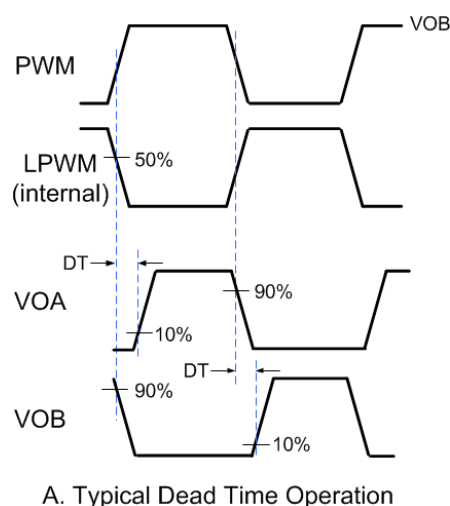
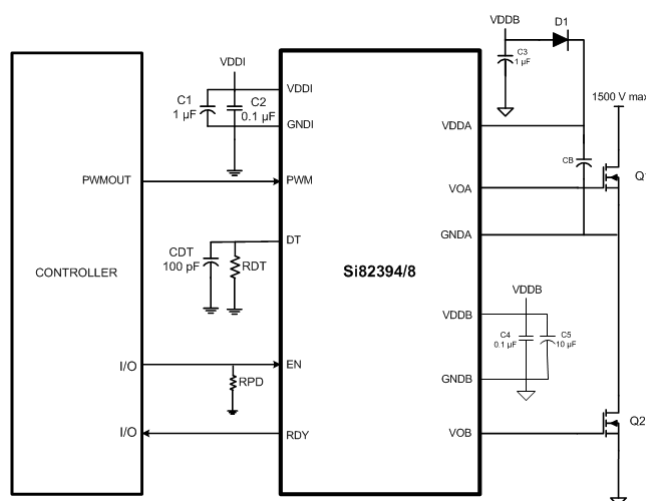

Figure 2.18. Dead Time Waveforms for High-Side/Low-Side Drivers
Figure 3.1. Si82394/8 Application Diagram
All high-side/low-side drivers (Si82394/8) include programmable dead time, which adds a user-programmable delay between transitions of VOA and VOB. When enabled, dead time is present on all transitions. The amount of dead time delay (DT) is programmed by a single resistor (RDT) connected from the DT input to ground per the equation below. Note that the dead time pin should be connected to GND1 through a resistor between the values of 6 kΩ and 100 kΩ and a filter capacitor of 100 pF in parallel as shown in Figure 3.1 Si82394/8 Application Diagram on page 18. It is highly recommended it not be tied to VDD1. See Figure 2.18 Dead Time Waveforms for High-Side/Low-Side Drivers on page 17 below.